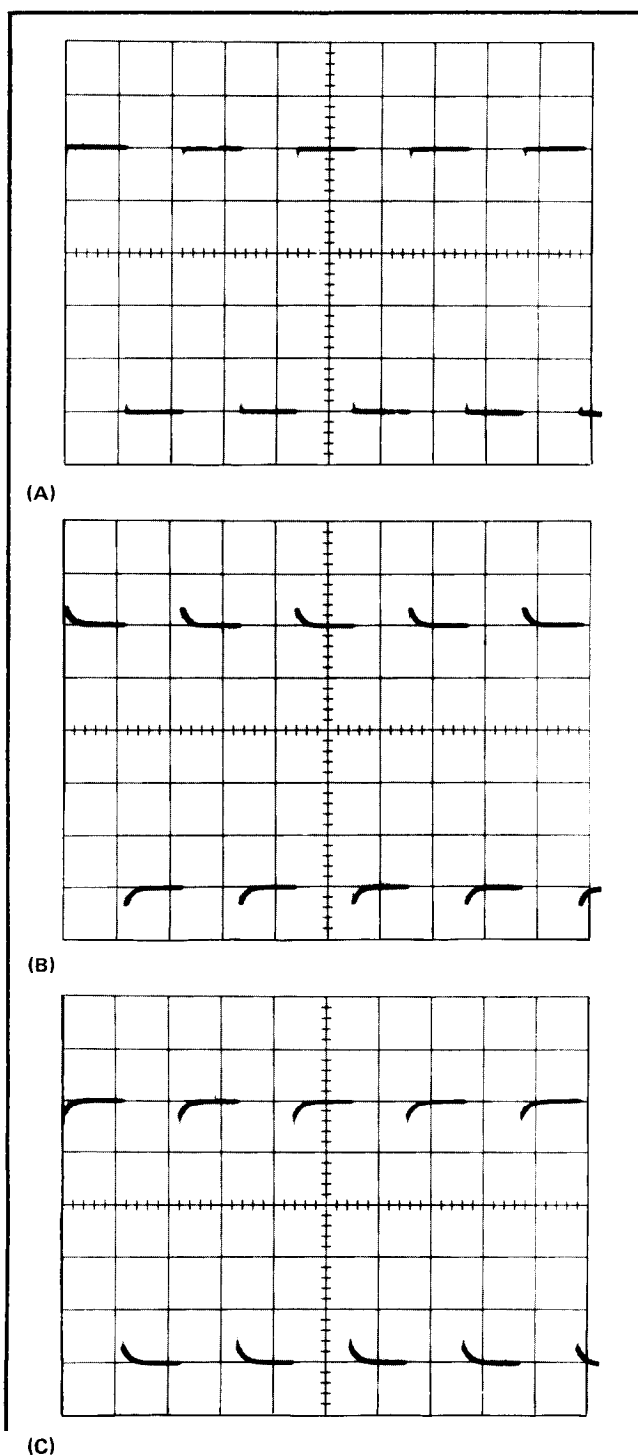

Fig. 5-4. Typical waveform showing (A) Correct adjustment of Input Attenuator Time Constant. (B) and (C) incorrect adjustment.
f. CHECK—The square wave display for flat tops (see Fig. 5-4).
d. CHECK—Each square wave for a flat bottom, using Fig. 5-4 as a guide.